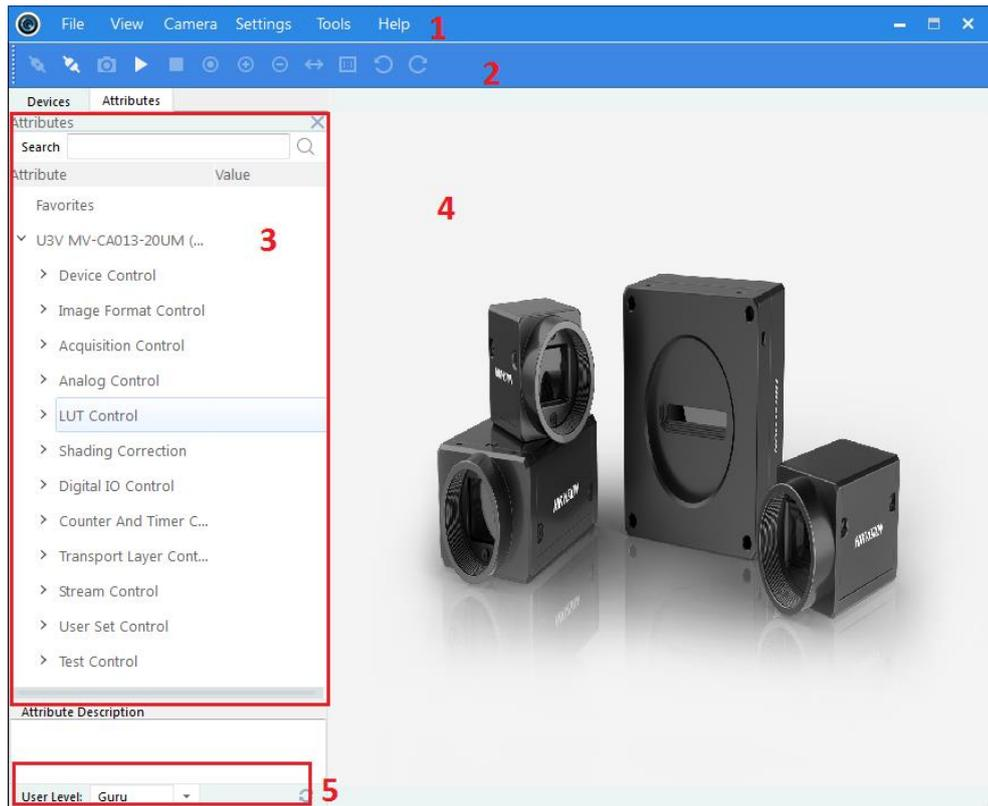

Figure 2-2 Main User Interface of the Client Software
1. Double click the MVS icon to enter the client software. The main user interface and the description of the client software are shown in Figure 2-2 and Table 2-1.